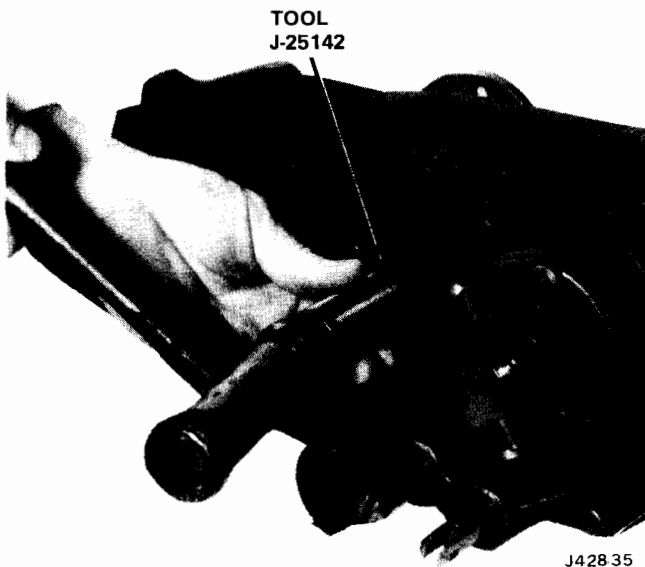

Fig. 8-12 Intermediate Shaft Removal
NOTE: Refer to figure 8-12 for parts nomenclature.
- (4) Remove intermediate shaft lock plate.
- (5) Using Arbor Tool J-25142 and plastic mallet, drive intermediate shaft out rear of case (fig. 8-12).